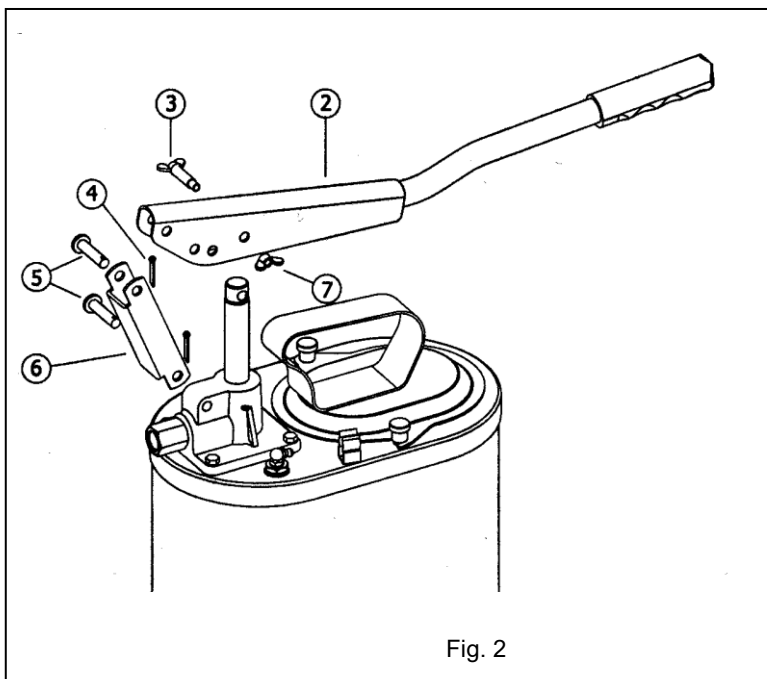

Fig. 2
Assemble the lever (2) and the link (6) as shown in figure 2.